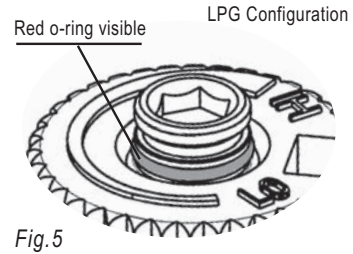

Fig.5
- 20) Verify that if the conversion is from NG to LPG, the screw must be re-assembled with the red o-ring visible (Fig. 5).